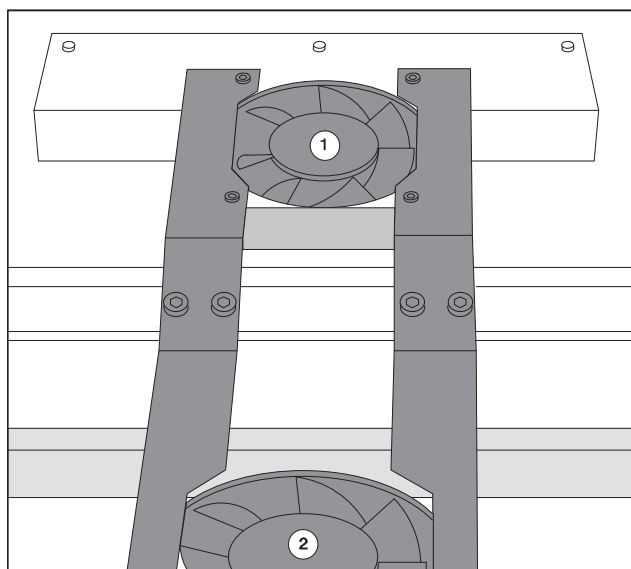
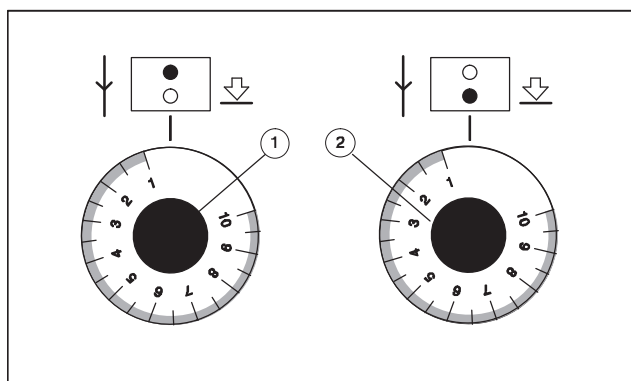

Fig. 24 Delivery fans
Fig. 25 Delivery fans, setting the speed
There are 2 fans above the delivery pile (Fig. 24/1 and 2) to improve the delivery of the printed sheets.
1. Set the speed of the fans infinitely via the corresponding control knob. Control knob (Fig. 25/1): rear fan (Fig. 24/1); control knob (Fig. 25/2): front fan (Fig. 24/2). - Position of the control knobs as shown in Fig. 25: fans are switched off.